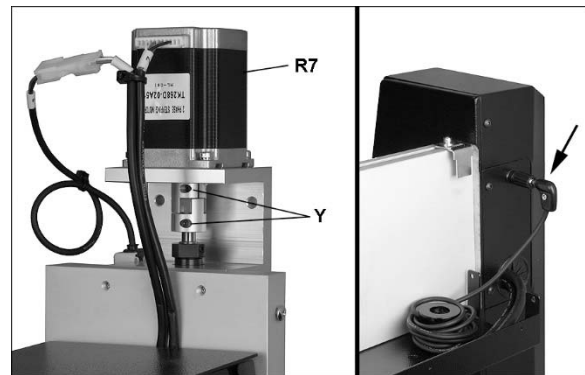

Figure 7-21
5. Install step motor (R7, Figure 7-21) to top of gantry tower in the orientation shown, and tighten two setscrews in coupling (Y). Connect cable.
6. The tool touch-off puck plugs into socket on gantry support (Figure 7-21).